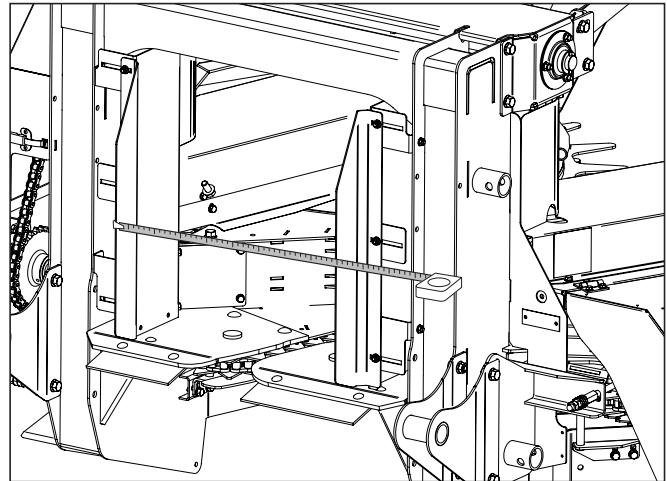

Figure 12 Adjustment
2. Measure the corn attachment opening (figure 12) and adjust if necessary.